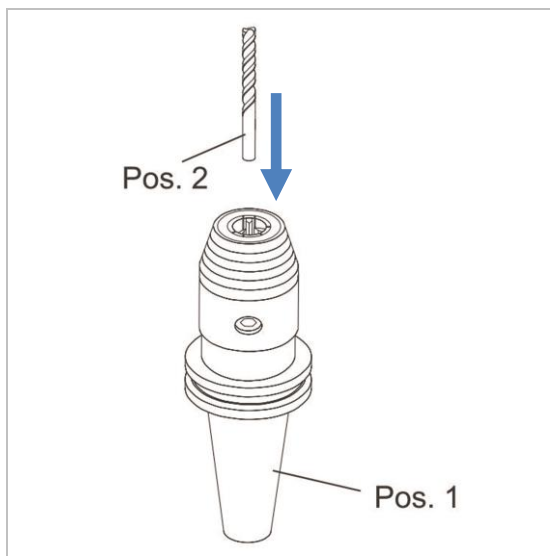

Figure 5: Inserting tool
2. Insert the tool (item 2) with the shank forward into the locating bore of the precision drill chuck until it stops (see "Figure 5: Inserting tool").